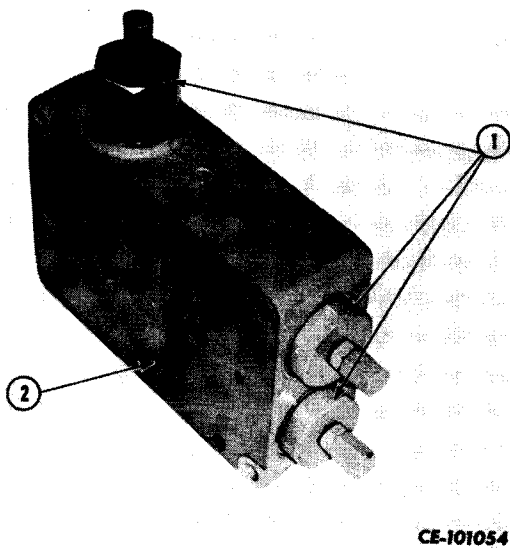

Figure 4-56
Remove cartridge valves (1, Fig. 4-56) from other valve half (2).
Install cartridge valves (1, Fig. 4-56) in valve half (2).